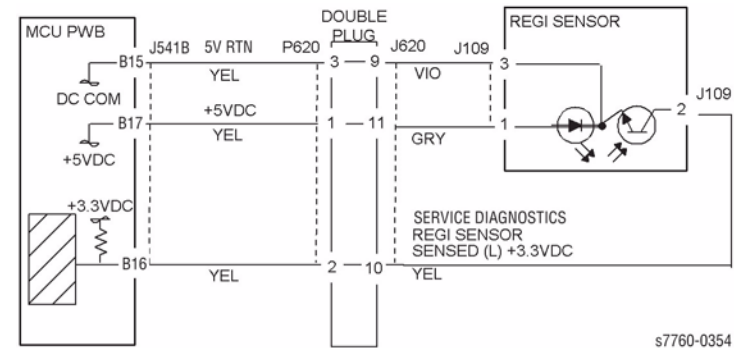
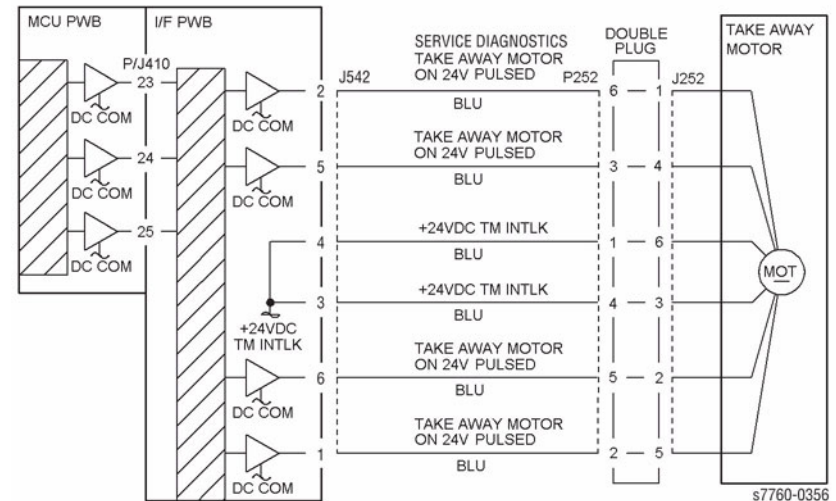

Figure 1 008-176 Registration Sensor
Figure 2 008-176 Takeaway Motor
- Ensure that the connectors shown in the circuit diagrams (Figure 1, Figure 2) are securely connected and that the wires are not damaged.